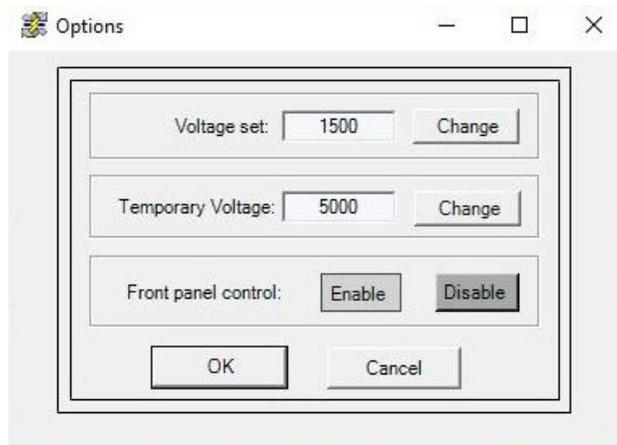

Figure 31 Options menu
- Press the Option button to confirm or change the following settings (Figure 31).